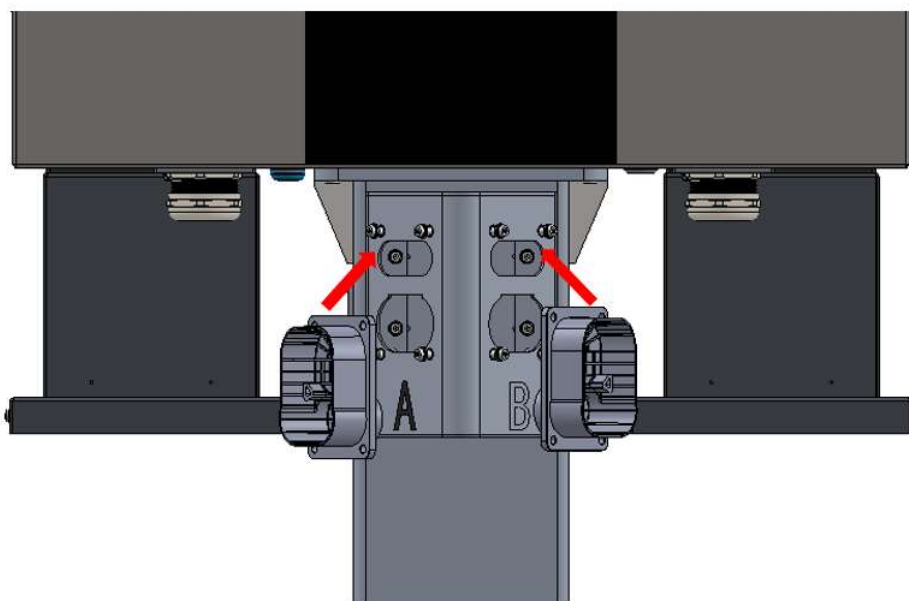

Figure 32 Installation diagram of connector holder
(6) Fix the connector holder with 4 M6× 16 bolts screws on the pole, as shown in Figure 32.